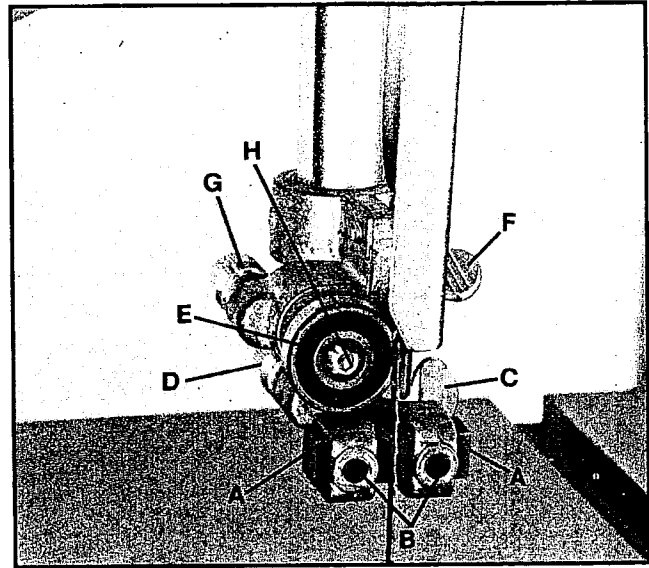

Fig. 28
1. The upper blade guides (A) Fig. 28, are held in place by means of the set screws (B). Loosen the set screws (B) to move the guides (A) as close as possible to the side of the blade, being careful not to pinch the blade. Then tighten the screws (B).
2. The guides (A) Fig. 28, should then be adjusted so that the front edge of the guides is just behind the "gullets" of the saw teeth. The complete guide block bracket can be moved in or out by loosening thumb screw (C) and turning knurled knob (D) Fig. 28. When guides (A) are set properly, tighten thumb screw (C).
3. The upper blade support bearing (E) Fig. 28, prevents the blade from being pushed too far to the back which could damage the set in the saw teeth. The support bearing (E) should be set 1/64" behind the blade by loosening thumb screw (F) and turning knurled knob (G) to move the support bearing (E) in or out.
4. The blade support bearing (E) should also be adjusted so the back edge of the blade overlaps the outside diameter of the ball bearing by about 1/16". The bearing (E) is set on an eccentric and to change position remove screw (H) and bearing (E) Fig. 28. Loosen thumb screw (F), back out screw (G) and reposition shaft that bearing (E) is attached to.